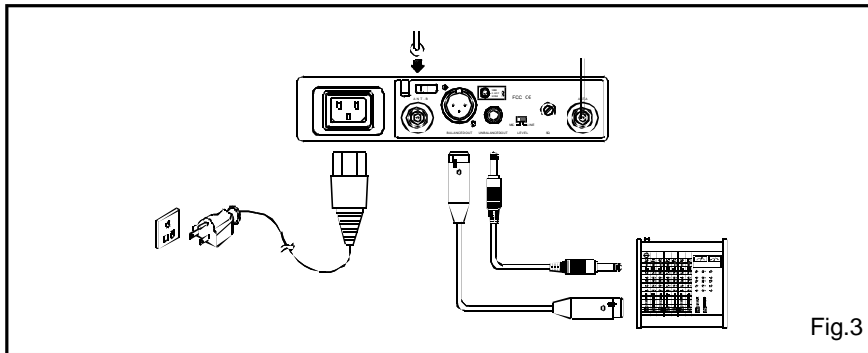
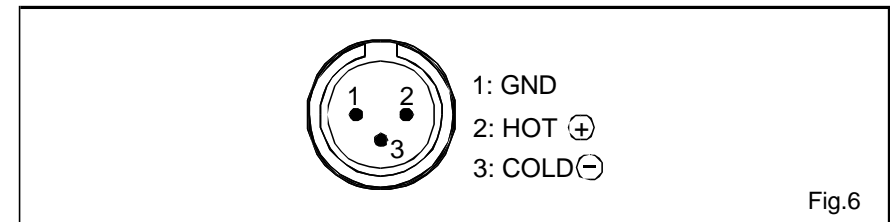

Fig.3
Fig.6
1. Install antenna in rear (6)(11) . Extend antenna to the fullest position. see fig. 3.
- a) Unbalanced Level Switch (9) Setting Position: When inputs the unbalanced output of a receiver into "Line-in" input jack of a mixer or amplifier or "Electric Guitar", switch the Level Switch (9) to the right "LINE" position. Low sensitivity may occur if switch to the wrong position. When input the unbalanced output of a receiver into the "MIC-IN" input jack of a mixer or amplifier; switch the Level Switch (9) to the left "MIC" position. Over load distortion may occur if switch to the wrong position. When using electric guitar, don't use "MIC" position as it may have generated insufficient level.
- (b) Unbalanced Output: Using audio output cable attached with "PHONE PLUG" type, connect one end from the unbalanced output jack (8) of the receiver, and the other end to the "LINE-IN" input jack of the amplifier.
- (c) Balanced Output: Using audio output cables attached with "XLR" or "Canon" type, connect one end from the balanced output jacks (7) of the receiver, and the other end to the "MIC IN" input jack of the mixer or amplifier, as shown in Fig. 3. (The characteristic of the 3-pin connector is as shown in Fig. 6
1. To adjust volume (5), GT/MT Switch (6), simply push down both snap locks on the sides of battery cover and flip it backwards to expose the adjustment panel.
4. Plug the microphone connector into the input jack (1) and tighten the connector screw by clockwise direction as shown in (Fig. 3).
2. Insert a two 1.5(AA) batteries into the battery compartment according to the correct polarity as shown in Fig. 5). Then push up to close the battery compartment as shown in Fig. 6).
(Fig.6)